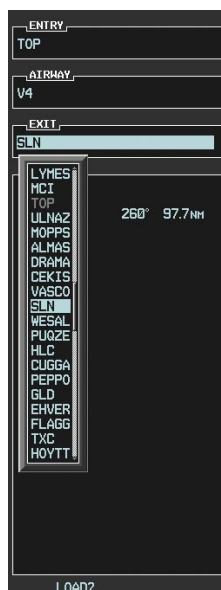

Figure 5-106 List of Available Exits for V4
h) Press the **ENT** Key. The list of available exits for V4 is now displayed as in Figure 5-106.
- i) If necessary, turn either **FMS** Knob to select the desired exit. In this case Salina VOR (SLN) is selected as in Figure 5-106.